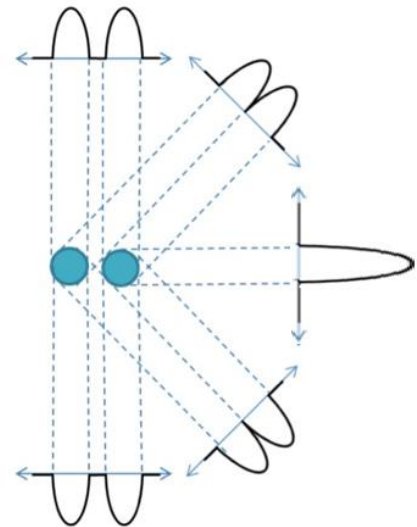

Fig 2: Projection reconstruction plot
- Plot all of the projections in MATLAB. Create a drawing like Fig. 2 with your projections (doing this by hand is fine).